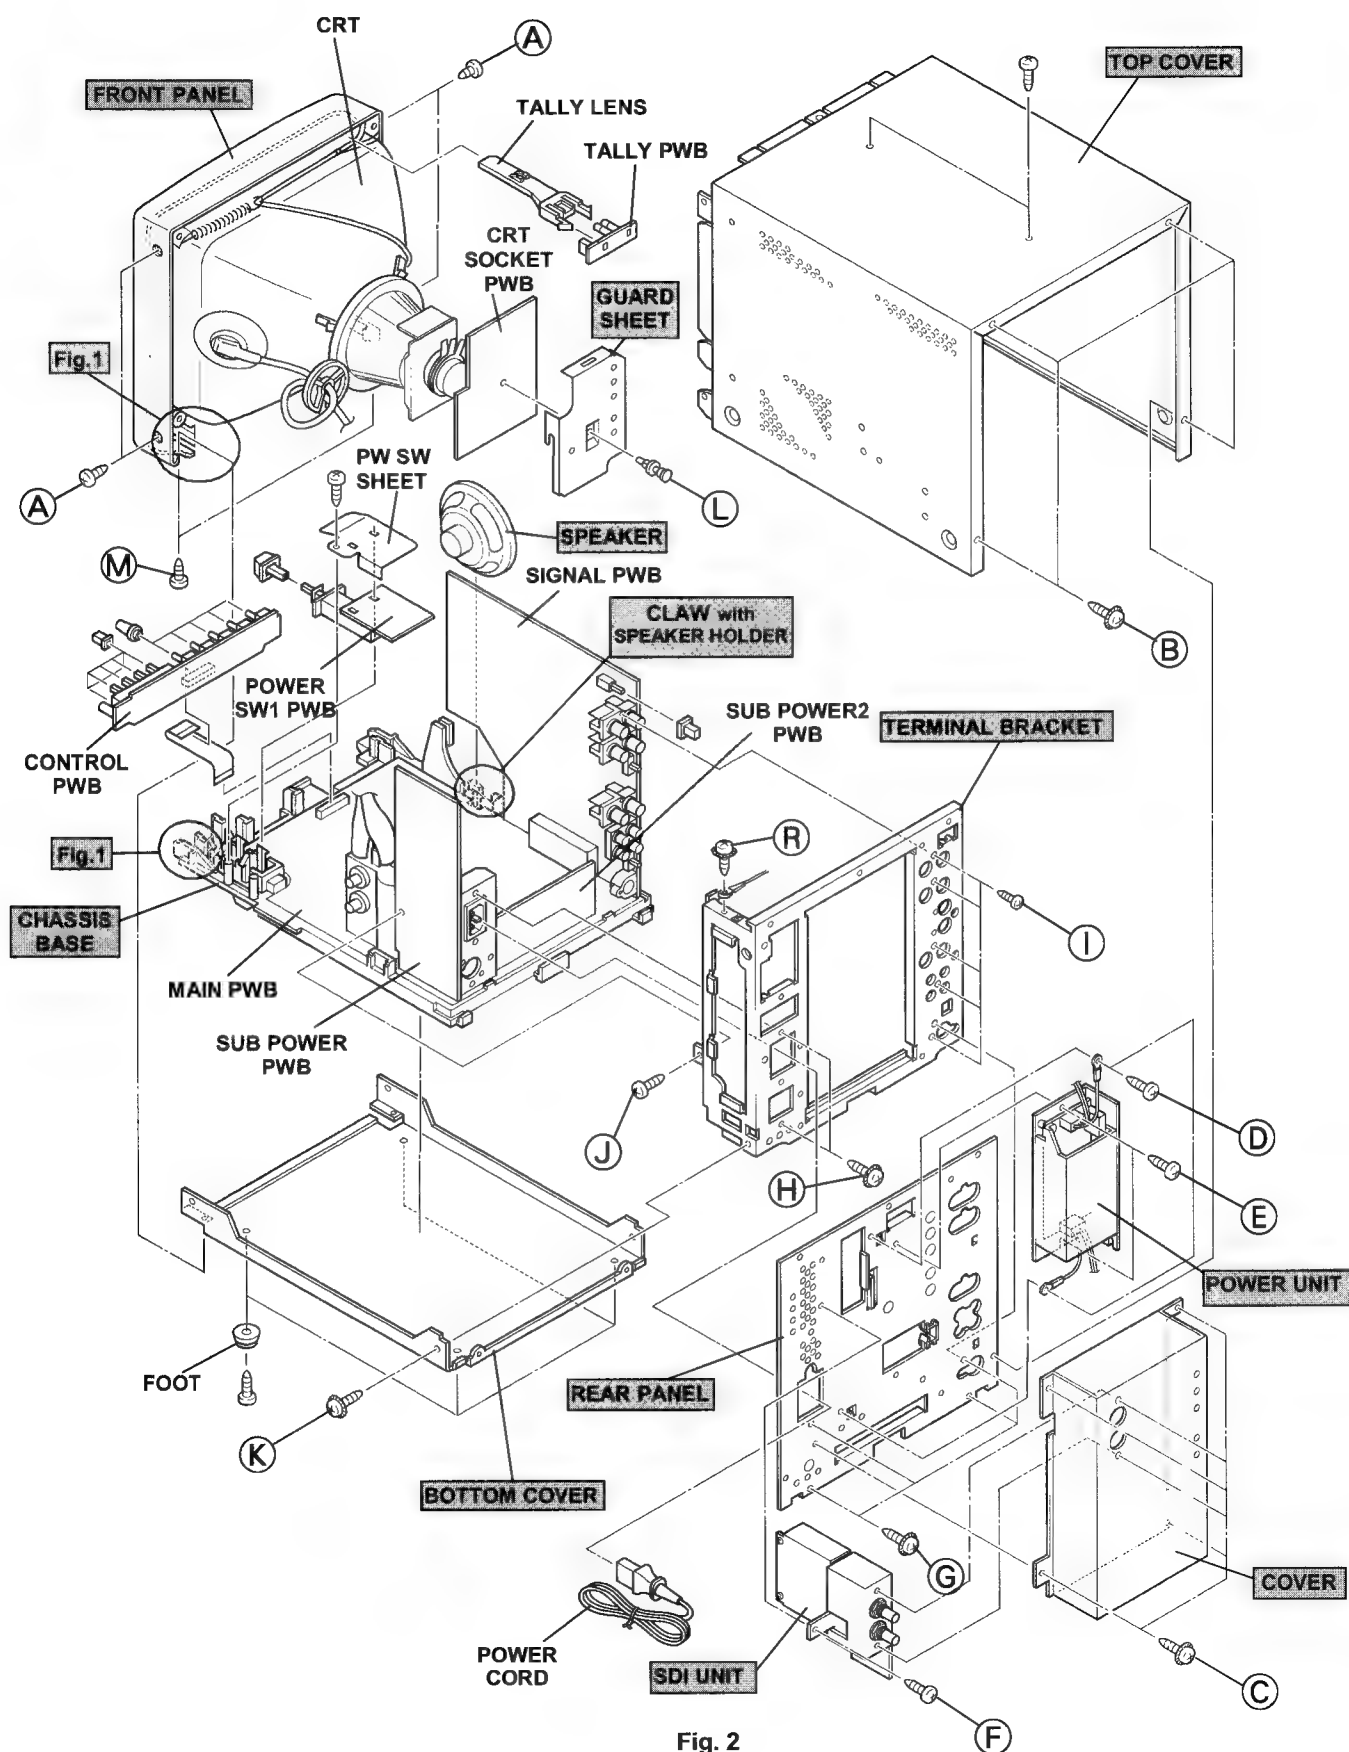

Fig. 2
2. As shown in Fig.2, remove the **4** screws marked (A) .
3. In the same way, remove the **4** screws marked (B) .
1. As shown in Fig.2, remove the **6** screws marked (C) .
3. As shown in Fig.2, remove the **2** screws marked (D) and **2** screws marked (E) , then remove the POWER UNIT.
4. As shown in Fig.2, remove the screw marked (F) , then remove the SDI UNIT.
1. As shown in Fig 2, remove **4** screws marked (G) .
3. As shown in Fig.2, remove the **2** screws marked (H) , **5** screws marked (I) and **1** screw marked (J) and (K) .
4. Remove the screw marked (R) , and remove the earth wire.
1. As shown in Fig.2, remove the rivet marked (L) .
2. As shown in Fig.2, pull up the GUARD SHEET, then remove it.
2. As shown in Fig.2, remove the **2** screws marked (M) .